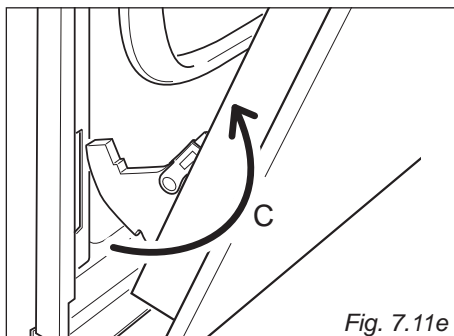

Fig. 7.11e
- Withdraw the hinge hooks from their location following arrow "C" (fig. 7.11e).